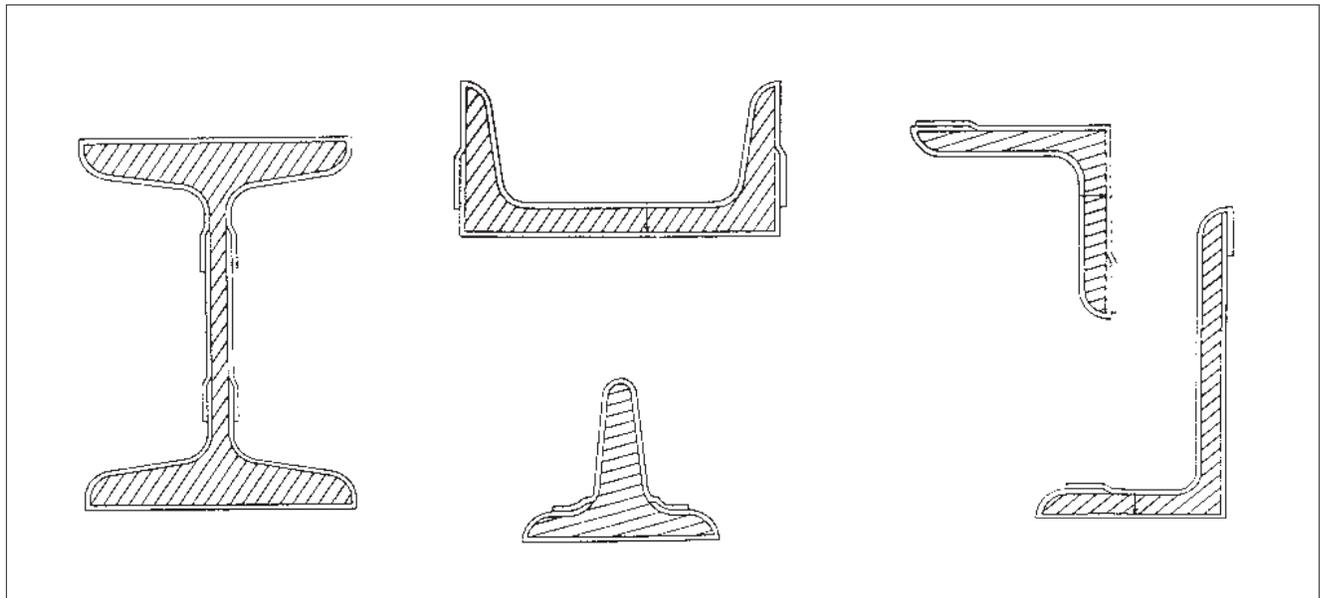

Figure 3
- 10.2 Use Prembond Hi-Tack Primer & Prembond Hi-Tack Tape which permit overlaps of at least 1" (25 mm) to be made in a downward direction (weatherboard effect) on vertical surfaces. Minimize the overlaps on the underside of horizontal surfaces (*See Figure 3*).
- 10.10 See Figure 3 for examples.